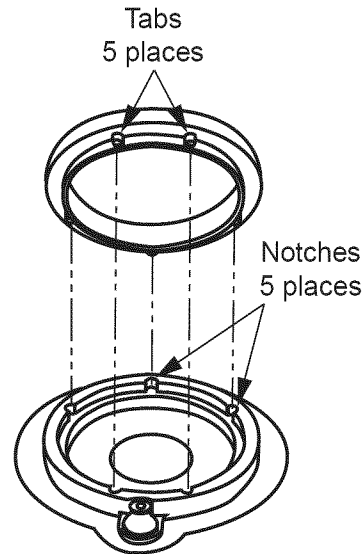
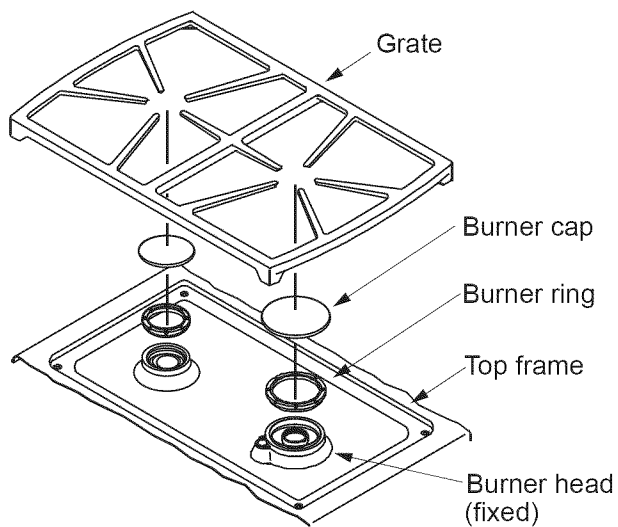

Figure 2 - Burner Ring Notches
Figure 1 - Burner and Grate Assembly
1. Put the burner ring on the burner head of each burner as shown in Figure 1. Be sure to match the correct sizes. As you put each ring in place, line up the five tabs on the bottom of the ring with the five notches in the top of each burner head (see figure 2). Twist each ring back and forth slightly to make sure it is properly seated.
2. Put the burner cap for each burner over the top of each burner ring (see Figure 1). Be sure to match the correct sizes. The ridge around the bottom edge of the cap goes around the top of the burner ring.
3. Gently set the grates on top of the spill tray. Put the legs of each grate into the corresponding dimples as shown in Figure 1.